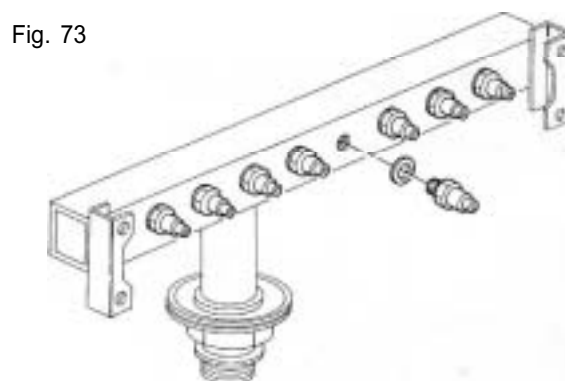

Fig. 73
- 7.14.5 Unscrew and replace the injectors and their seals (Fig. 73).